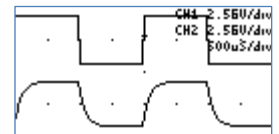

Figure 53: RC Measurements
- 5) The display should look similar to figure 53.